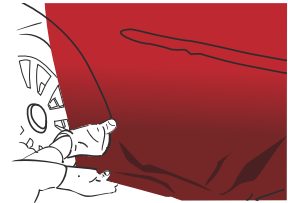

Figure 09
- › Apply the peak with your finger or a felt-covered plastic squeegee. (FIG. 09)